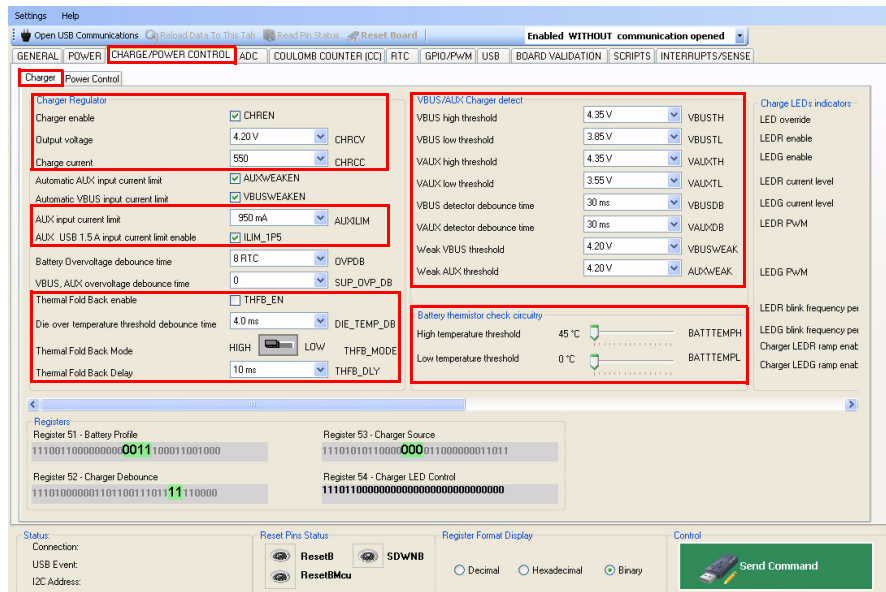

Figure 25. Battery Charger Configuration Tab Window 1
2. In the **Charger** tab, select the charger voltage and current (see Figure 25), AUX/VBUS input current limit settings, thermal settings, VBUS/VAUX charger detect thresholds and battery thermistor thresholds from the list.